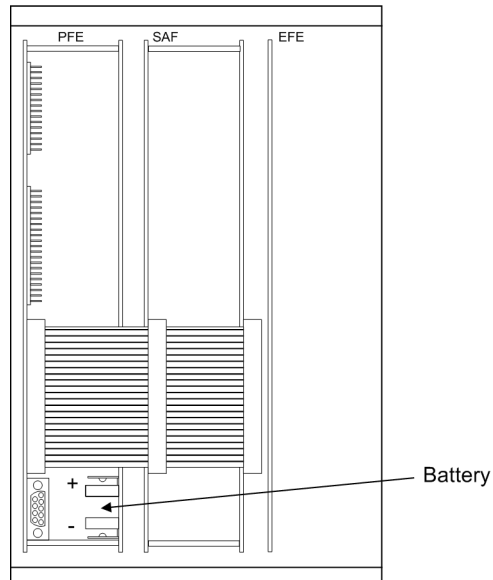
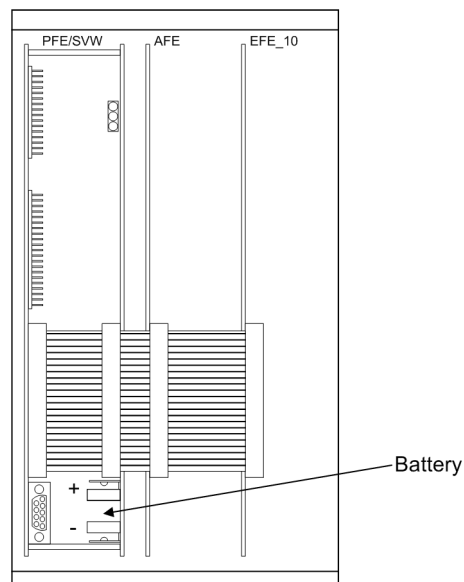

Figure 8-6 Front view after removing the front panel, and location of the buffer battery 7SS523
Figure 8-7 Front view after removing the front panel, and location of the buffer battery 7SS525
- The battery is located on the bottom front of the PFE module (Figure 8-6, page 335).
- ❑ Press the new battery firmly into its snap-in holder (see Figure 8-6, page 335 or Figure 8-7, page 335). **Observe the correct battery polarity!**
- ❑ The fine-wire fuse is located on the power supply module (SAF or PFE/SVW). The location of that module is shown in Figure 8-6, page 335 or Figure 8-7, page 335.